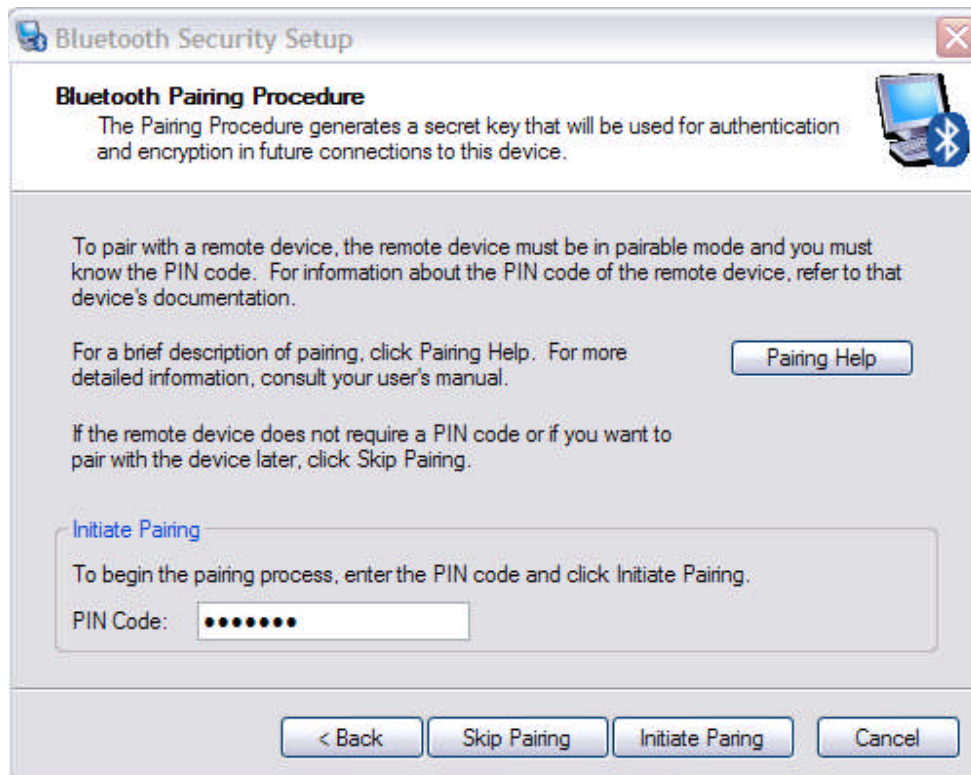

Figure 6a: Bluetooth setup wizard screen
- iv. Enter the code “65536” (the older brace units use “1234” or “default”) and click on Initiate Pairing (Figure 6a)